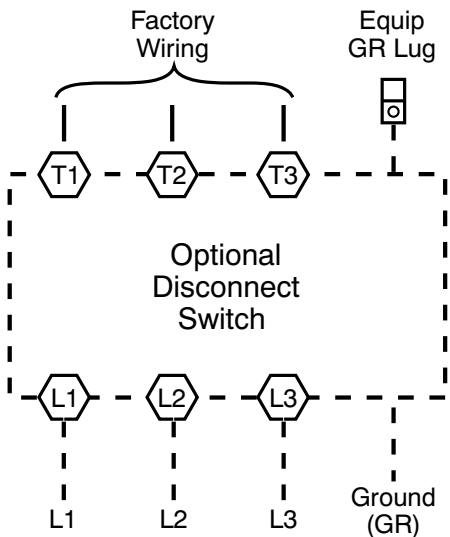

Fig. 39 — Power Wiring Connections
Size wire based on MCA (Minimum Circuit Amps) on the unit informative plate. See Fig. 39 for power wiring connections to the unit power terminal block and equipment ground. Maximum wire size is 2/0 AWG per pole.
3. Install power lines to terminal connections as shown in Fig. 39.